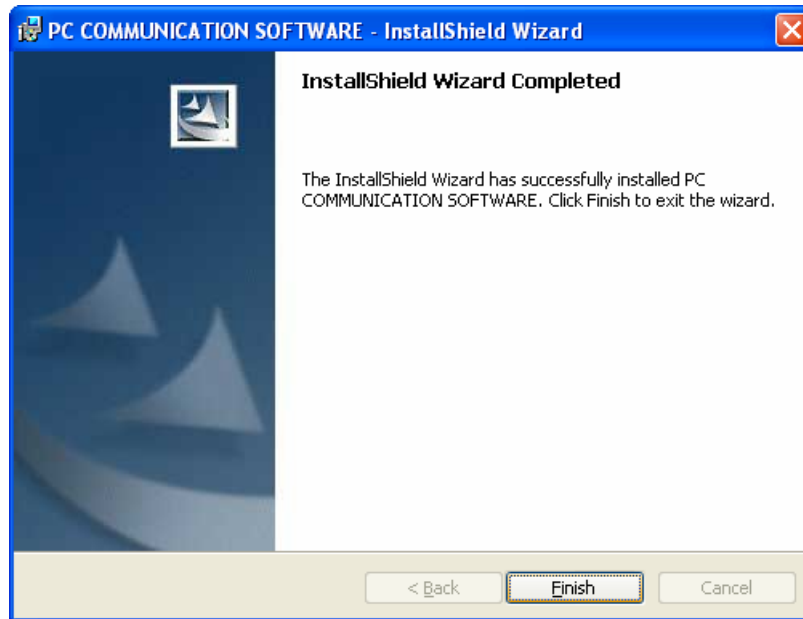

Figure 6 : Installation completed
6. Once the installation successfully is completed, the following screen is shown. (Figure 6). Click **Finish** to exit the wizard.